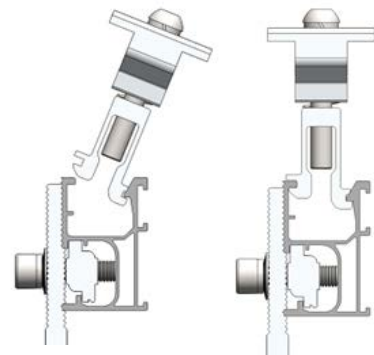

Figure 29
Step 2 Incline the Universal Clamp to fit the lower channel against the lower channel of the Rail, and press the Universal Clamp down towards the other side to securely fit the upper channel against the upper rail channel, as shown in Figure 29.